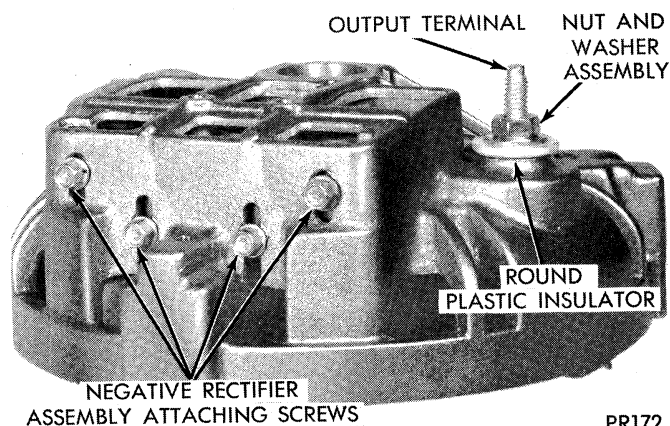

Fig. 19—Removing Negative Rectifier Assembly and Output Terminal Nut
Rectifier and Heat Sink Assembly Removal (Fig. 19)
(1) Remove four hexagon-head screws, (Fig. 19) securing negative rectifier and heat sink assembly to rectifier end shield and lift heat sink assembly out of end shield.
(2) Remove nut and washer assembly, (Fig. 19) from alternator output ("BAT") terminal (located on outside of rectifier end shield). Remove round plastic insulator.